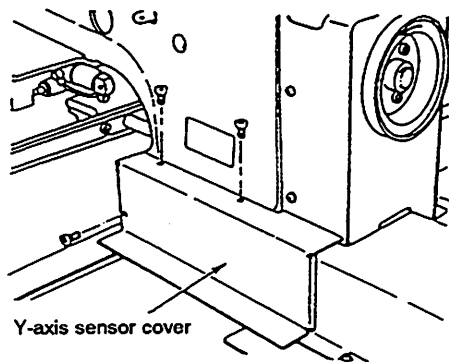
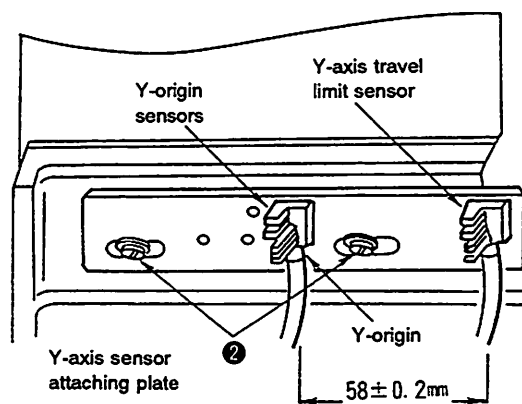
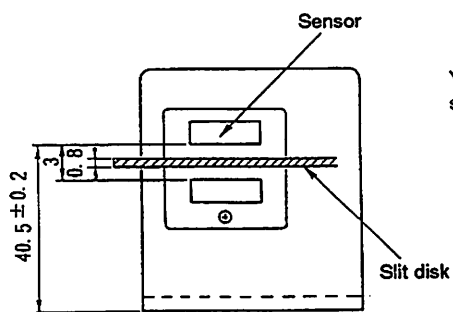

Fig. 5-33-8
Fig. 5-33-9
Fig. 5-33-10
<p>B. Adjusting the Y-axis origin and travel limit</p> <ol style="list-style-type: none"> 9) Remove the Y sensor cover. (Fig. 5-33-8) 10) Follow the same procedure described in steps 2) and 3). 11) Loosen setscrews ❶, and move the Y sensor attaching plate to the left or right until display (H) showing the Y origin changes from 1 to 0. Immediately after the display has changed, tighten setscrews ❶. (Fig. 5-33-3, Fig. 5-33-9) 12) Press jog key  on the operation panel to move the feeding frame until display (I) showing the travel limit *3 changes from 1 to 0. Immediately after the display has changed, stop the feeding frame. (Fig. 5-33-3) 13) Make sure that a gap between the sensor and the needle tip is 1.5 mm or less in terms of the marker line V of travel limit *3. 14) With regard to display (G) showing travel limit *4, press jog key  and make the adjustment referring to the procedure described in step 12). 15) With regard to marker line V of travel limit *4, make sure that the specified distance is obtained referring the procedure described in step 13). <p>[Caution] After making the adjustments, make sure that the Y-axis slit disk enters the center of the clearance between the sensor photo-couplers and that the slit disk overlaps the top end of the sensor photo-coupler by 5 mm or more, when the Y-axis slit disk passes through the two Y-axis sensors. If they do not, adjust the clearance between the slit disk and the photo-coupler referring to "C. Clearance between the slit disk and the photo-coupler."</p>
<ul style="list-style-type: none"> ○ Adjusting the X sensor Respectively position the X travel sensors (right) and (left) so that they work when the feeding frame moves to the right and left by 92 mm. Then, fix them with screws ❶. (Figures 5-33-10 and -11) ○ Adjusting the Y sensor If the Y slit plate and photo-coupler do not overlap as deep as 5 mm or more, loosen screws ❸ and adjust the Y slit fixing plate. After the adjustment, fix it with the screws. Adjust the Y origin using screws ❷. (Figures 5-33-9 and -11) Adjusting the origin automatically determines the position of the Y travel limit sensor. <p>[Caution] Make sure that the slit disk does not come in contact with the photo-coupler.</p>	<ul style="list-style-type: none"> ○ The sensors fail to detect the X/Y origin or travel limits, resulting in the same problems caused by the improper adjustment of the origin or travel limits. ○ Since the slit disk may come in contact with the photo-coupler, the corresponding parts could become broken or damaged.